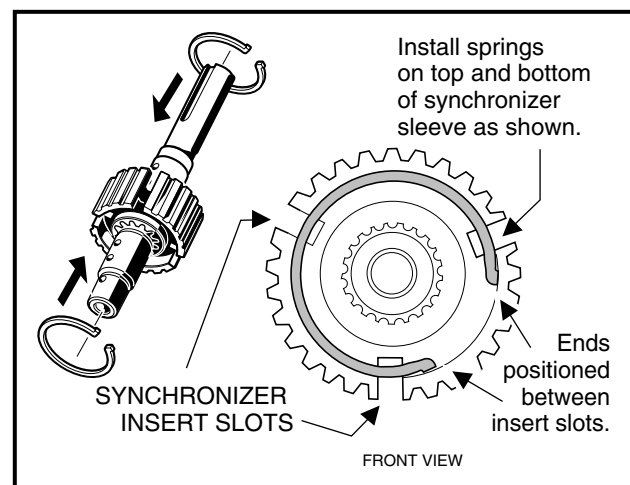

Figure 7-29 Synchronizer Springs
- 1.2. Install the synchronizer springs (49) (**Figure 7-16, Page 7-9**) in the sleeve (**Figure 7-29, Page 7-16**).
NOTE: Make sure the ends of the springs are positioned between the synchronizer insert slots (**Figure 7-29, Page 7-16**).
- 2.2. Install the synchronizer springs (49) (**Figure 7-17, Page 7-10**) in the sleeve (**Figure 7-29, Page 7-16**).
NOTE: *Make sure the ends of the springs are positioned between the synchronizer insert slots (**Figure 7-29, Page 7-16**).*